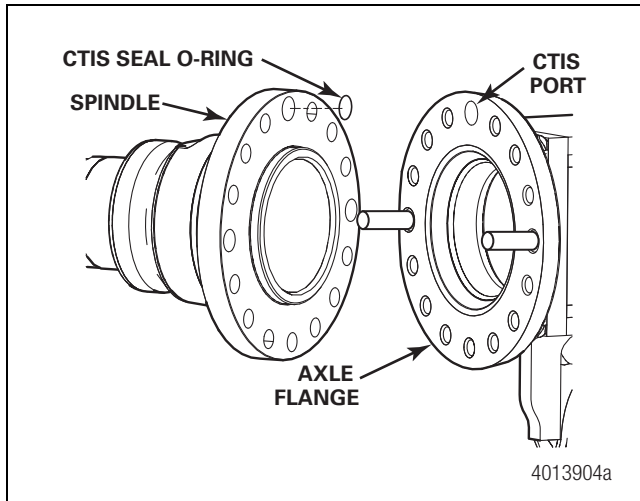

Figure 5.14
- If equipped with the optional CTIS feature, lubricate and install a new CTIS port O-ring in the groove on the spindle. Figure 5.14.
- If equipped with the optional CTIS feature, align the spindle with the CTIS port at the 12 o'clock position on the housing. Figure 5.14.